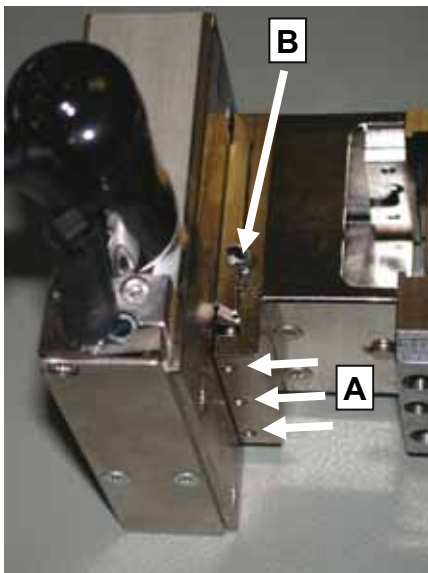

Figure 7.18 Dove tail screws (A) and alignment screw (B)
8. Using the alignment screw of the Lynx Iris (**B**) (see Figure 7.18) optimize to a position where you get maximum intensity.